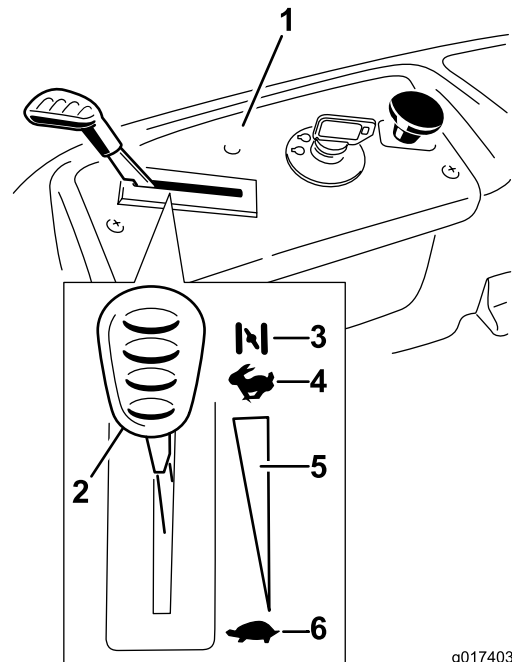

Figure 13
3. Pull up on the Choke control before starting a cold engine (Figure 13).
2. Move the throttle lever to Fast (Figure 13).